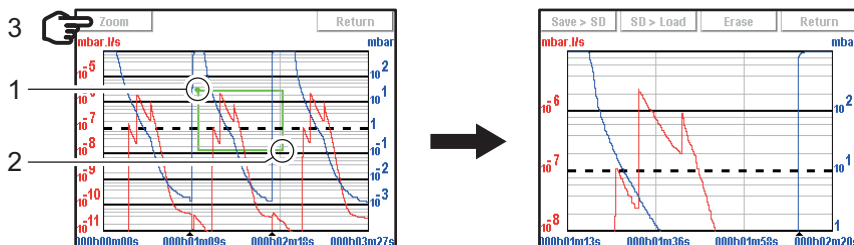

Fig. 15: Selection and viewing the area to be enlarged
→ Select the point to measure (ref. 2 Fig. 15).